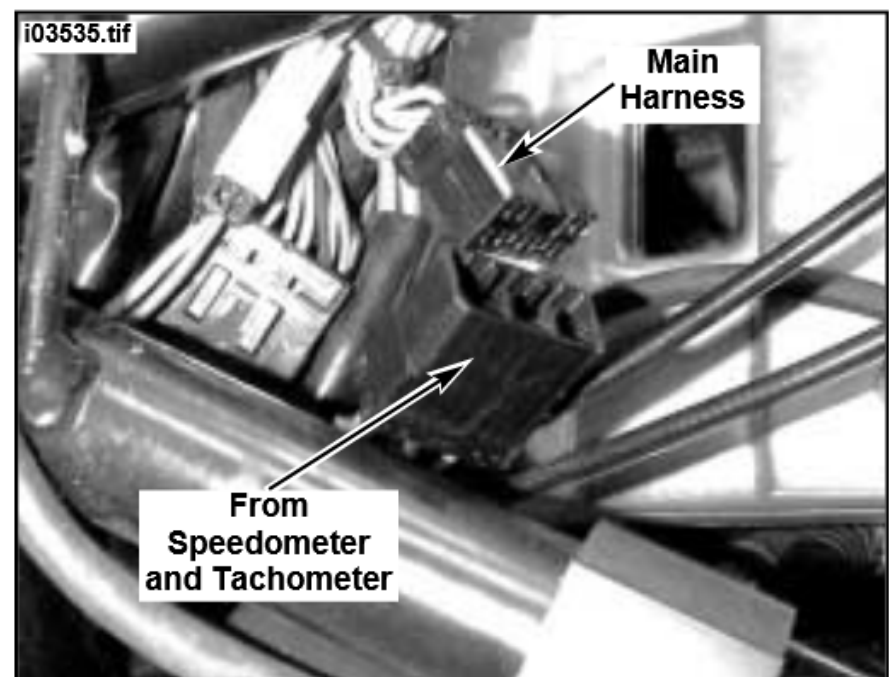

Figure 11. Speedometer/Tachometer to Main Harness
28. See Figure 11. Connect the Speedometer/Tachometer half of the connector to the connector from main harness.